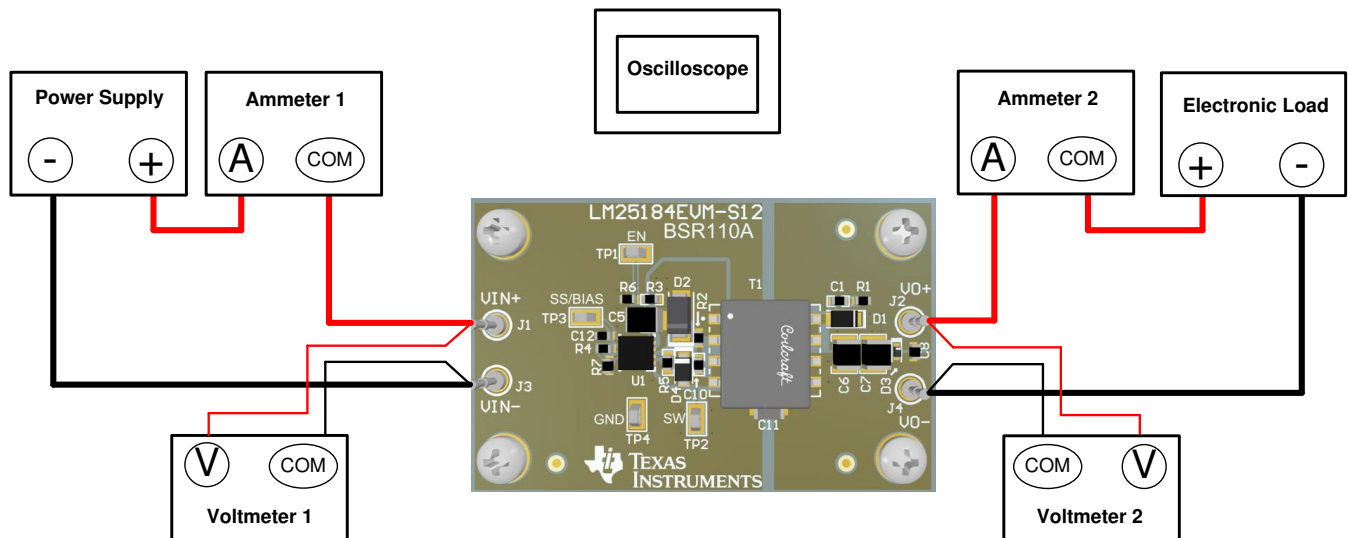

Figure 3. EVM Test Setup
Referencing the EVM connections described in Table 3, the recommended test setup to evaluate the LM25184EVM-S12 is shown in Figure 3. Working at an ESD-protected workstation, make sure that any wrist straps, bootstraps, or mats are connected and referencing the user to earth ground before power is applied to the EVM.
- Prior to connecting the DC input source, set the current limit of the input supply to 0.1 A maximum. Ensure the input source is initially set to 0 V and connected to the  $V_{IN+}$  and  $V_{IN-}$  connection points as shown in Figure 3. An additional input bulk capacitor is recommended to provide damping if long input lines are used.